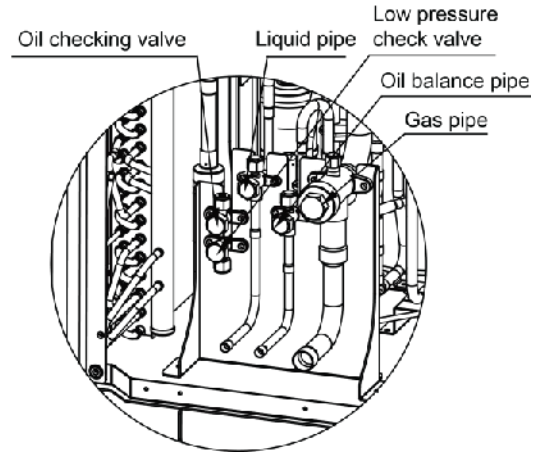

Fig. 37
2. When there are more than 2 outdoor units, air purging from the nozzle located on the oil balance valve. Confirm outdoor oil balance valves are closed. See Fig.37.